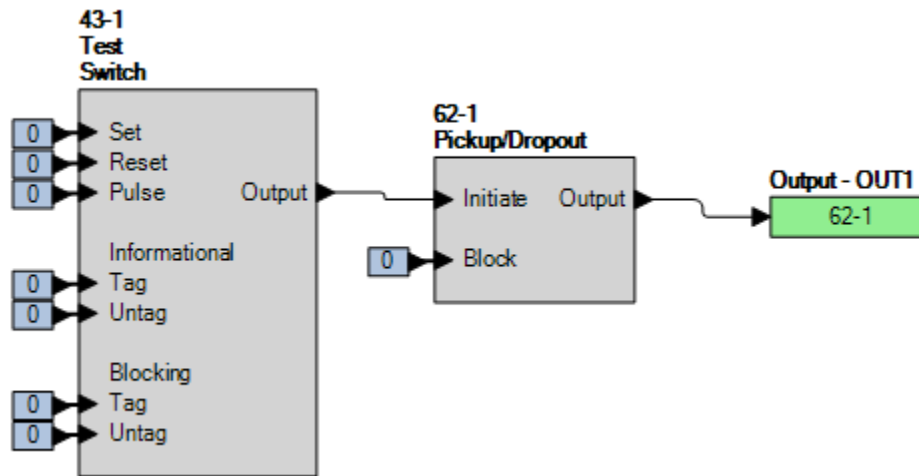

Figure 69-1. BESTlogicPlus Settings
Step 2: Use BESTCOMSP*lus* to configure the BESTlogic*Plus* programmable logic shown in Figure 69-1.
Step 1: Use BESTCOMSPi.us to send the operational settings in Table 69-2 to the BE1-11*i*. Retain the logic settings from Figure 69-1.
- Step 1: Use BESTCOMSPi^{us} to send the operational settings in Table 69-4 to the BE1-11*i*. Retain the logic settings from Figure 69-1.
Step 1: Use BESTCOMSPlus to send the operational settings in Table 69-5 to the BE1-11i. Retain the logic settings from Figure 69-1.